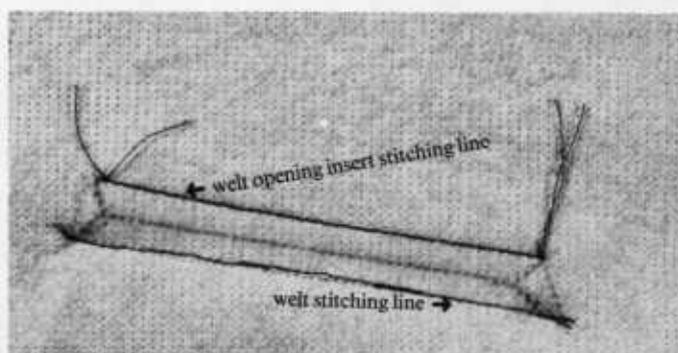

figure 39
- From the wrong side, stitch the welt opening insert along the upper stitching line (*figure 39*). Backstitch or tie the threads exactly at the corners. Remove pins.